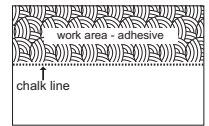

Figure 10a
STEP 4: Installing the Floor (Glue-Down Installations) (Figures 10a–10d)